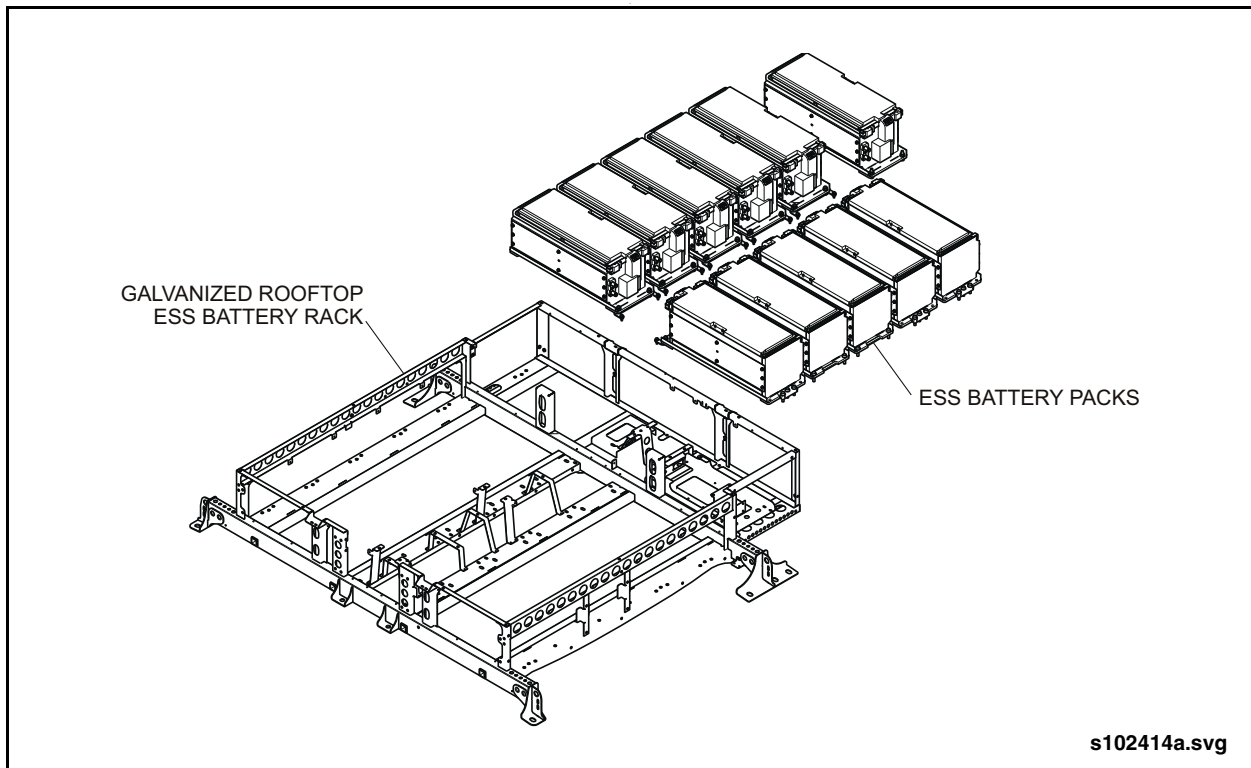

Fig. 1-3: Rooftop ESS Battery Rack
- Rooftop and Rear ESS Battery Racks. See “Fig. 1-3: Rooftop ESS Battery Rack.”